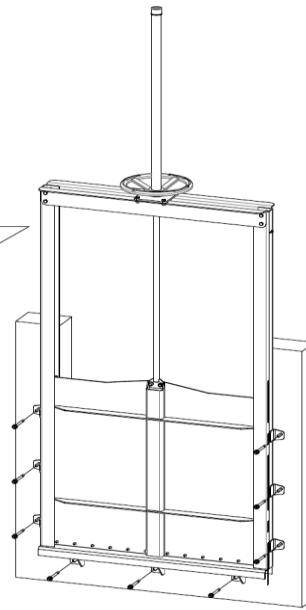

Figure 13
- Drill and install the rest of the anchor bolts (see Figure 13)